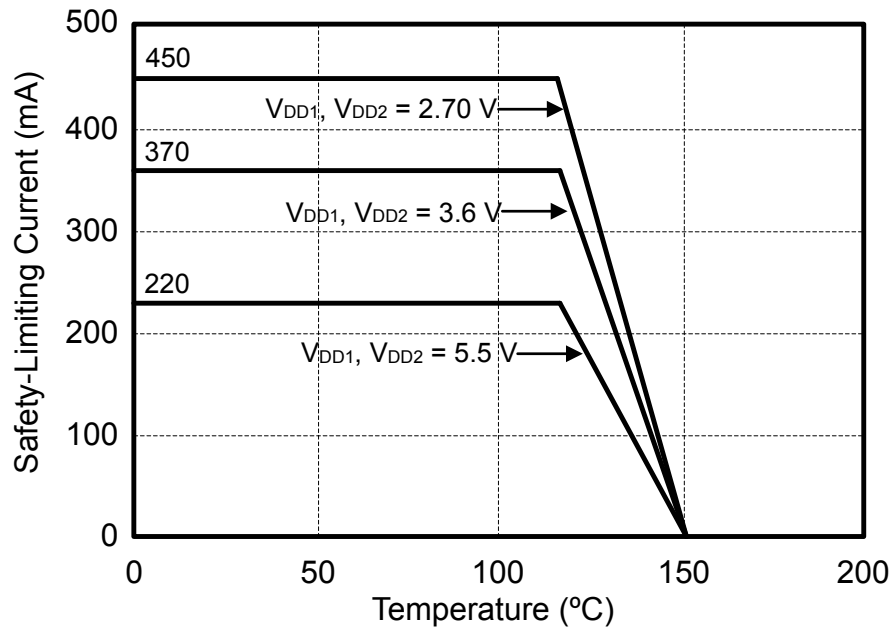
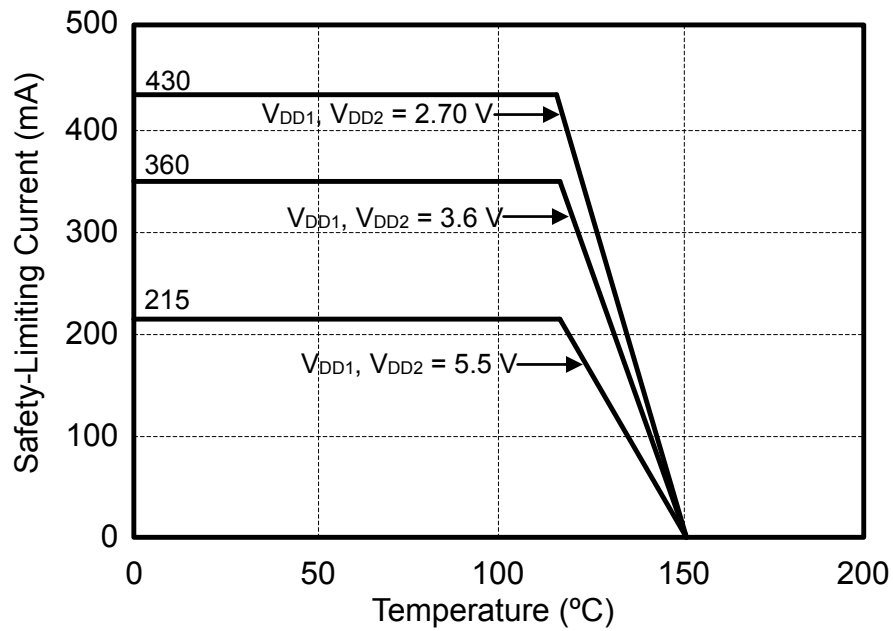

Figure 4.3. (WB SOIC-16) Thermal Derating Curve, Dependence of Safety Limiting Values with Case Temperature per VDE 0884-10
Figure 4.4. (NB SOIC-16, QSOP-16) Thermal Derating Curve, Dependence of Safety Limiting Values with Case Temperature per VDE 0884-10
- Maximum value allowed in the event of a failure; also see the thermal derating curve in [Figure 4.3 \(WB SOIC-16\) Thermal Derating Curve, Dependence of Safety Limiting Values with Case Temperature per VDE 0884-10 on page 26](#) and [Figure 4.4 \(NB SOIC-16, QSOP-16\) Thermal Derating Curve, Dependence of Safety Limiting Values with Case Temperature per VDE 0884-10 on page 26](#).